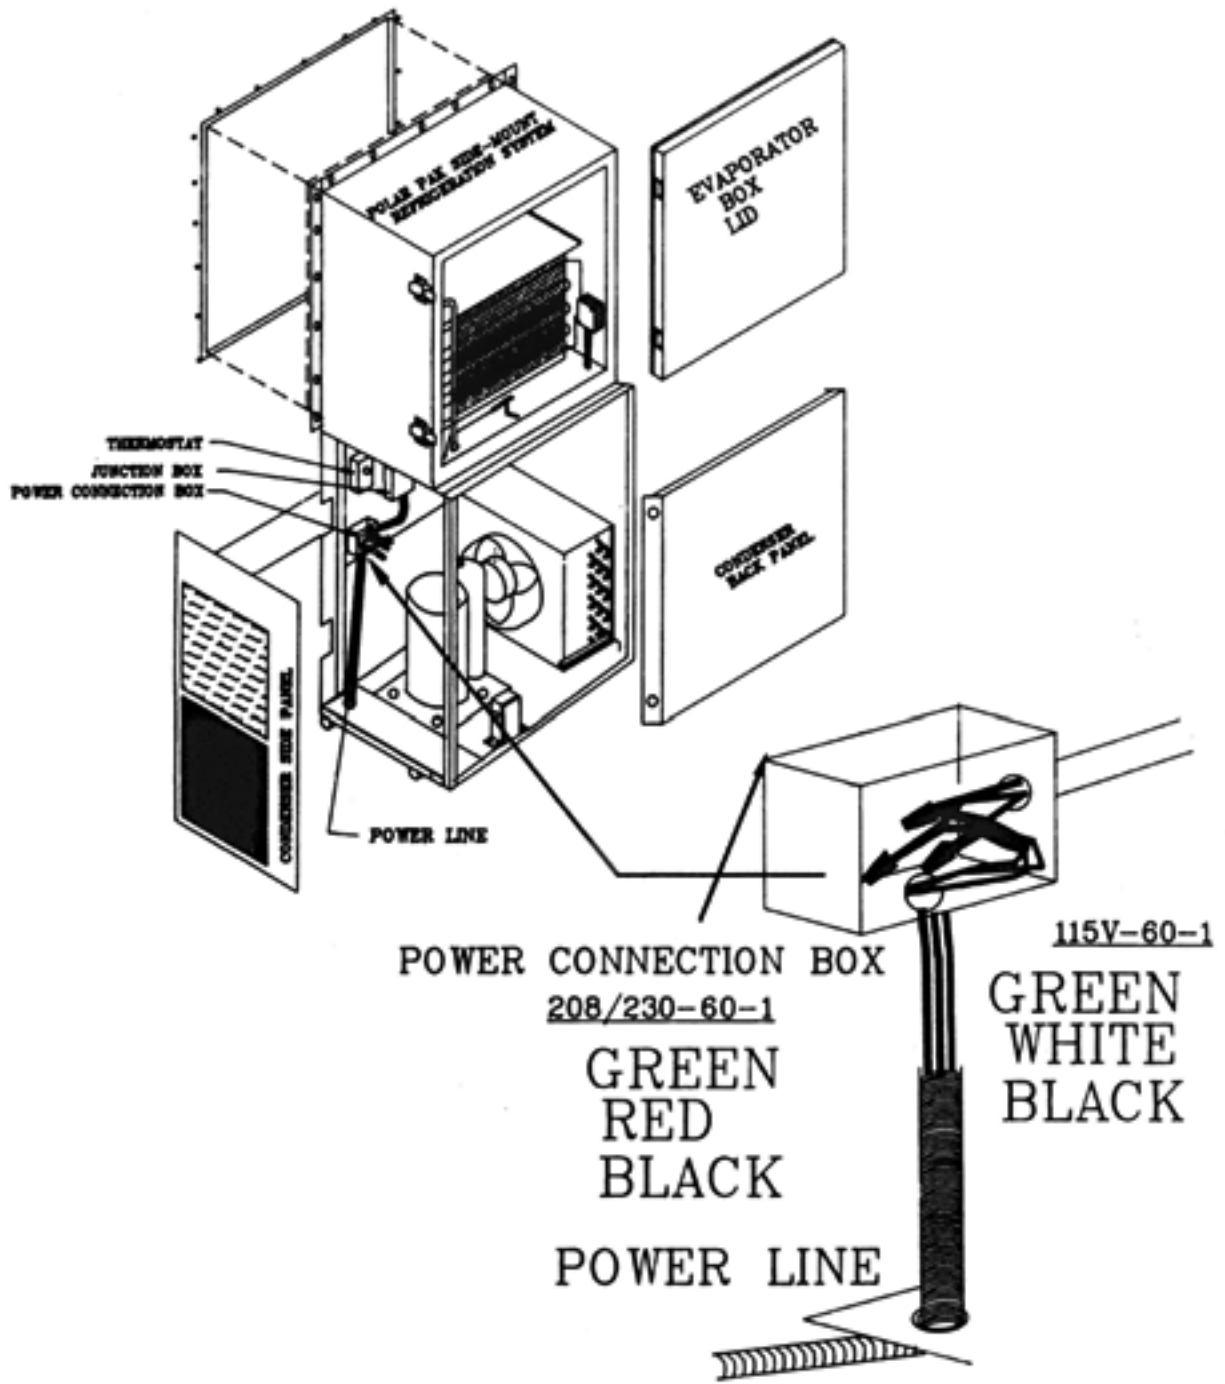

Figure 7: Power Hook-up for Polar-Pak Side Mount COOLERS.
- Locate the power connection junction box. Refer to Fig. 7.
- Feed the power line through the circular opening on the bottom of the condensing unit. Connect one end to pigtails in the unit power junction box and the other end to a properly sized electric outlet with an appropriate overcurrent protective device. Consult the unit nameplate for power requirement. Fig. 7 shows the wiring illustration.